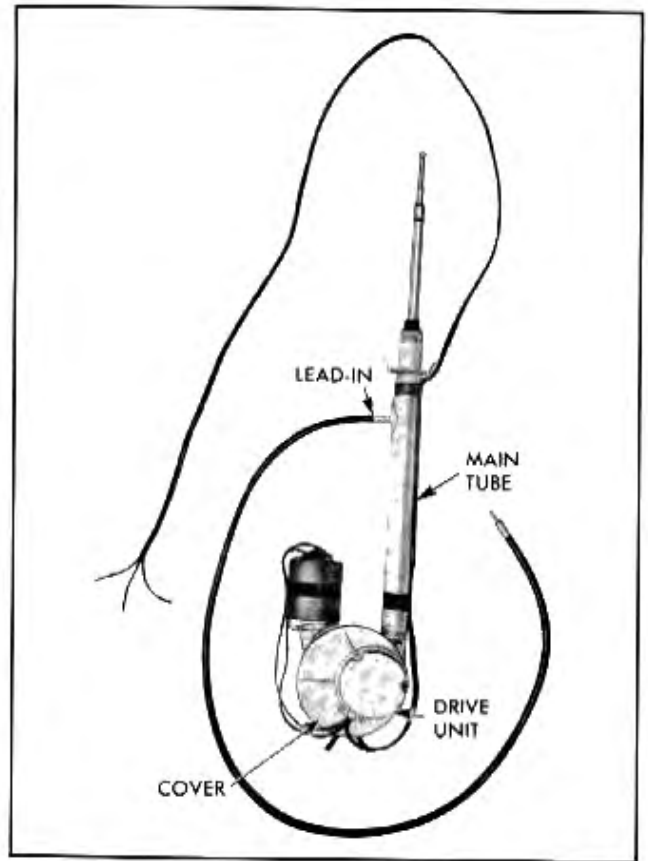

Fig. 14-9 Pioneer Automatic Antenna
2. Remove main tube assembly by removing two screws holding tube assembly to drive unit (Fig. 14-9). Remove tube by turning and pulling away